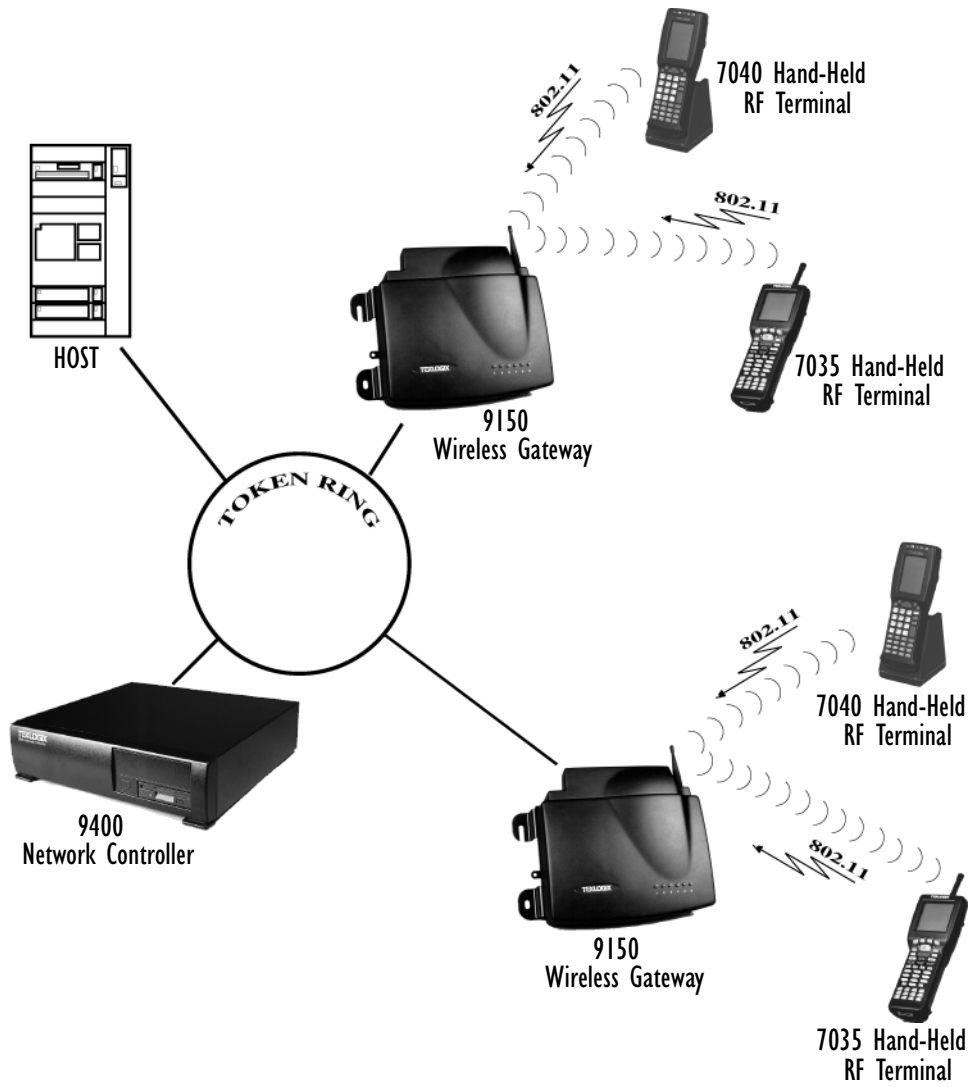

Figure 1.4 9150 Access Point Configuration
As an access point, the 9150 Wireless Gateway forms a communication link between Teklogix RF terminals or wireless access point clients and a Teklogix Network Controller or a host computer. It communicates over an IEEE 802.11 RF data link with terminals and over a cable with a network controller or a host computer. The 9150 can be connected to the network through an Ethernet or Token Ring connection. The diagram in Figure 6.1 on page 125 illustrates a 9150 access point connection between a Teklogix 9400 Network Controller on Ethernet and IEEE 802.11 wireless devices. Figure 1.4 on page 12 shows a generalized Token Ring configuration.
**Note:** For detailed information on configuring the 9150 as an access point, please see Chapter 6: “Access Point Configuration”. For a generalized system diagram, see Figure 1.4 on page 12.